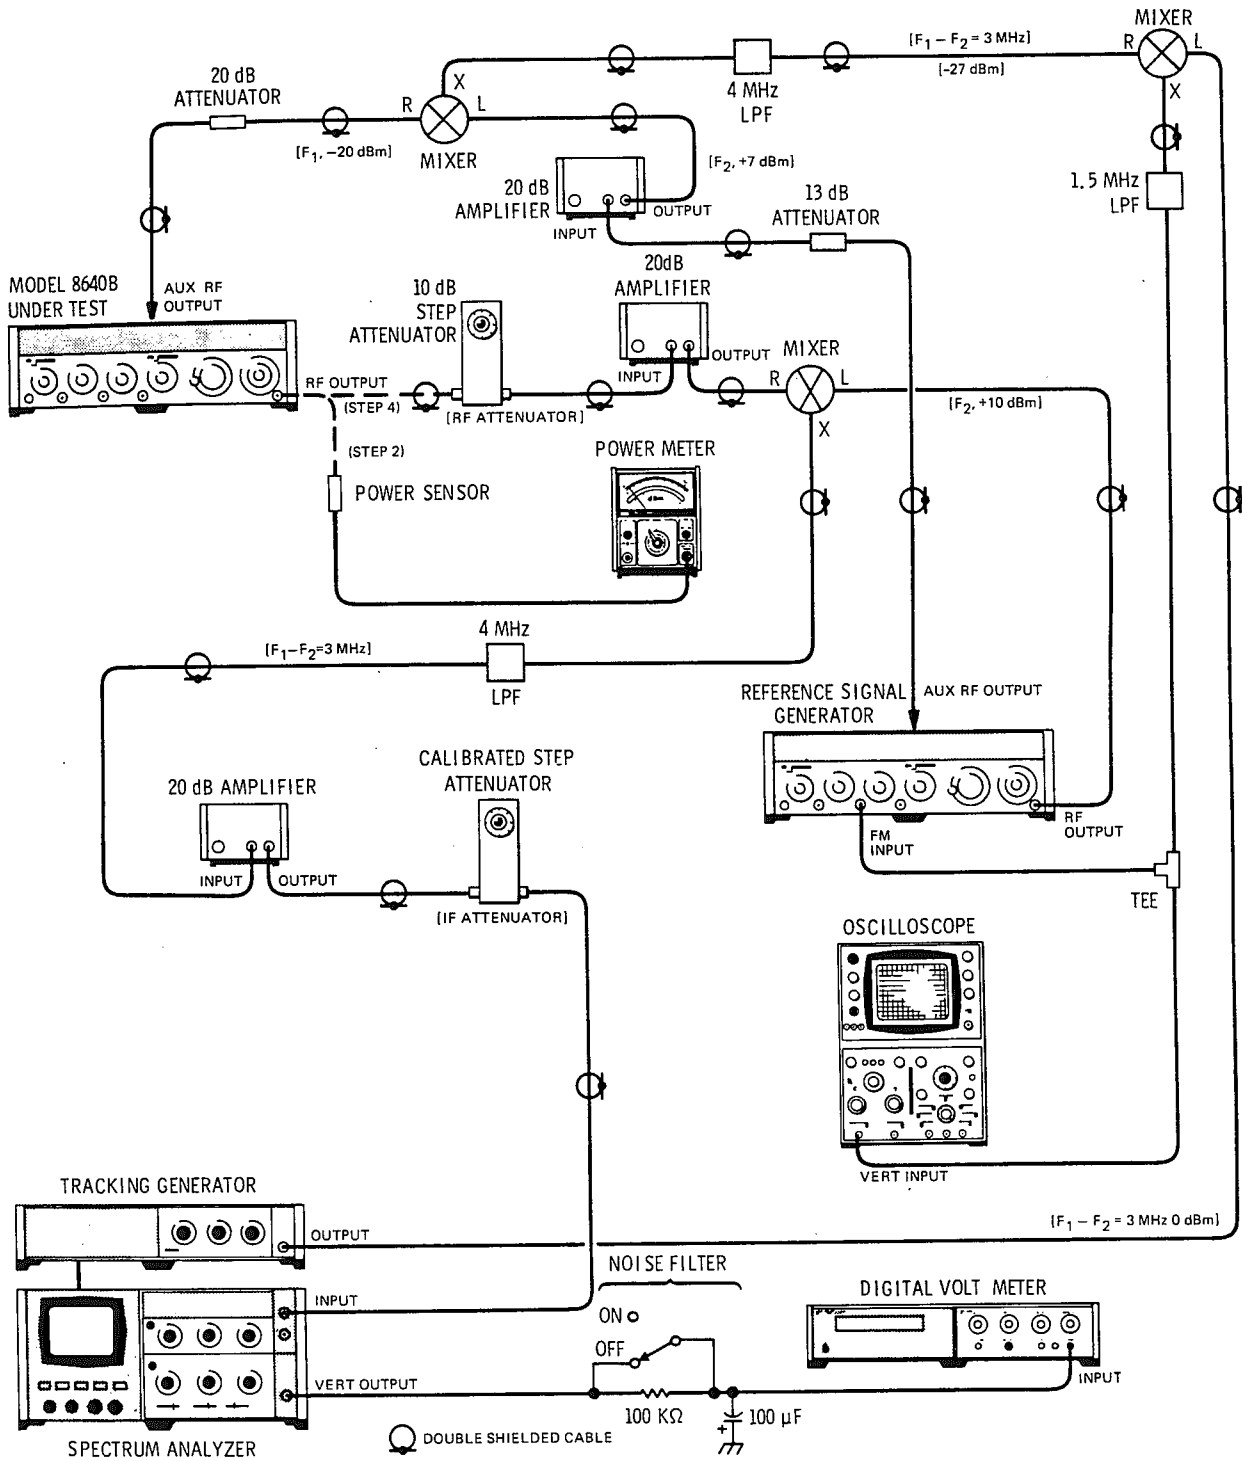

Figure 4-11. Output Level Accuracy Test Setup (Complete)
4. Disconnect power meter and sensor from generator. Connect test generator's RF OUTPUT to the step attenuator as shown in Figure 4-11. Do not change any of the test generator's control settings (particularly the OUTPUT LEVEL vernier).